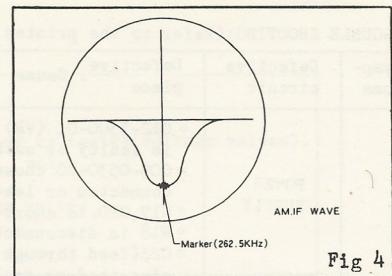

Fig 4
- (d) Set the dial pointer to highest frequency, the sweep generator to 262.5 KHz and increase the sweep output. A wave form such as that shown in Fig.4 will appear.
- (e) Then adjust IFT (intermediate frequency transformer) IFT 1, IFT 2 to obtain the wave form shown in Fig.4.